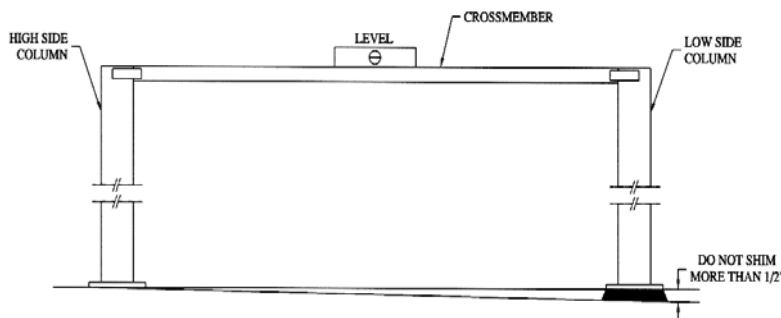
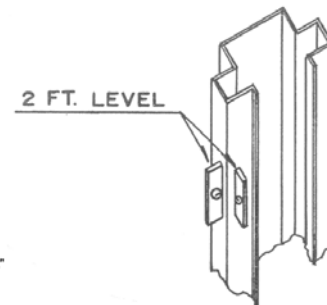
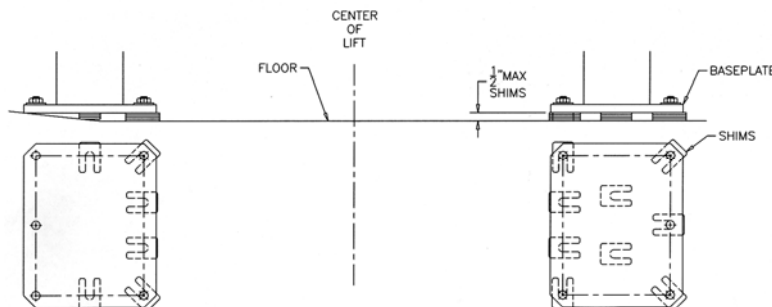

Figure 18
Figure 19
Figure 20 – Shims
2. Using a 4ft. level on top of the crossmember, determine which column is higher. Refer to **Figure 18**.
2. Using a 2ft. level on the sides of the high column, ensure that the column is level in the vertical position (**Figure 19**). Use shims under the column baseplate to hold the column level. Ensure that the base plate is completely supported by shims including near the center where it does not contact the floor (**Figure 20**).
6. Reconfirm that the column is level front to rear and side to side (**Figure 19**). Add or remove shims as required.
1. Using a 4ft. level on top of the crossmember (**Figure 18**) and a 2ft. level on the low side column (**Figure 19**), shim underneath the baseplate until the crossmember and column are level. Ensure that the baseplate is completely supported by shims including near the center where it does not contact the floor (**Figure 20**).